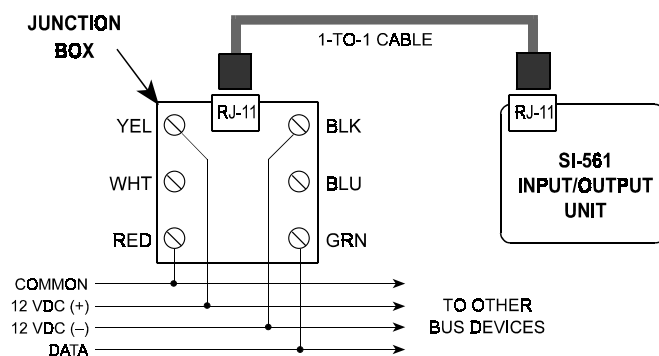

Figure 5-4. Bus Connection via a Junction Box
A. Identify the 4 wires of each bus and connect them to the numbered terminals within the junction box, maintaining the order required for correct patching (see Figure 5-4).